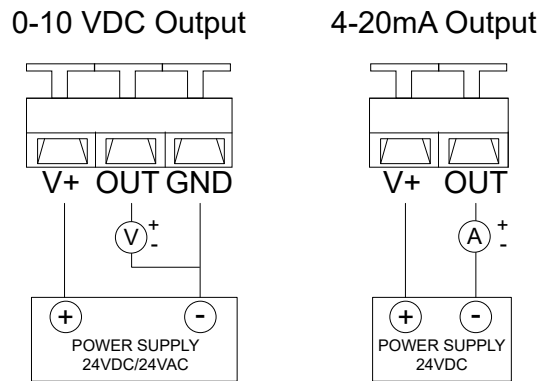

Figure 7 AcuTEMS IM Wiring Terminals for Temperature Transmitter
**NOTE:** If using 4-20mA signal output, the sensor must be powered with 18.5~35VDC ( $R_L=500\Omega$ ) power supply. Ensure that the analog input common reference of the BAS controller, PLC, and Automation Panel is connected to the DC power supply common to complete the circuit. The device will not work if the common references are not connected. See Figure 7 below.